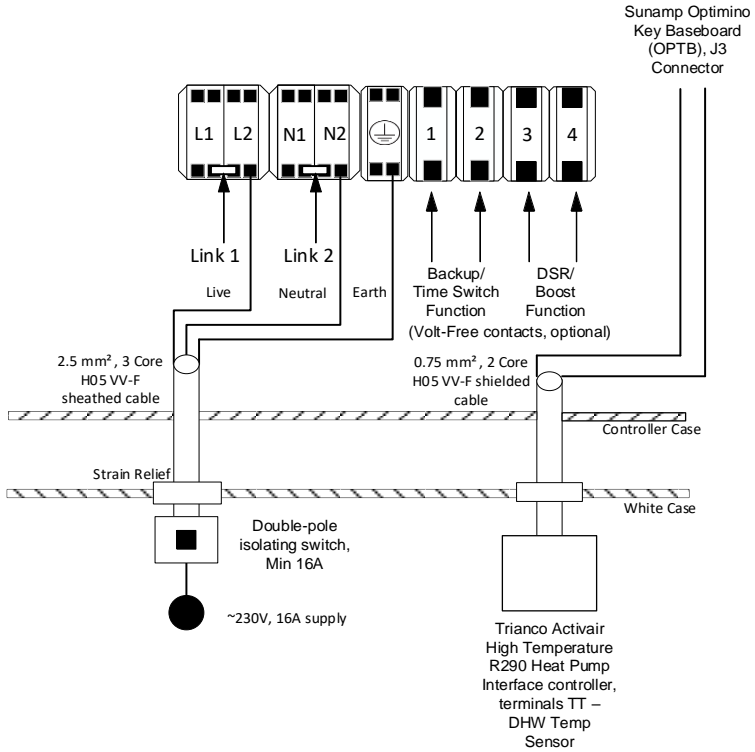

Figure TO.1 - Thermino xPlus with TO01 Optimino key
- Thermino xPlus with the "TO01" & "TO02" Optimino keys (D0084 - Section 6.4.2 for wiring instructions & Figures TO.1 & TO.2 below)
J3 on the Optimino Board J3; please see Figures TO.1 & TO.2 below for reference.